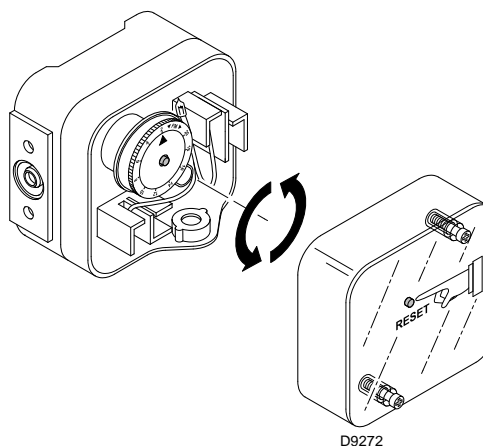

Fig. 44
- Adjust the high gas pressure switch to the upper limit of the scale (Fig. 44).
Adjust the maximum gas pressure switch after having performed all other burner adjustments with the maximum gas pressure switch set to the end of the scale (Fig. 44).